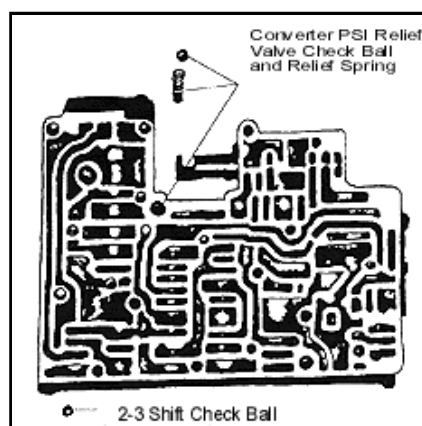
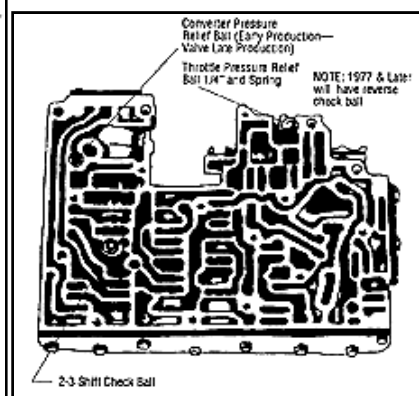

Figure 3
Figure 4
STEP 7 Reinstall check balls in upper valve body half as shown. **(See Figure 3 and Figure 4)** (On 1967 and later the converter pressure relief spring is longer than the throttle pressure relief spring). Check balls will remain in the stock location.